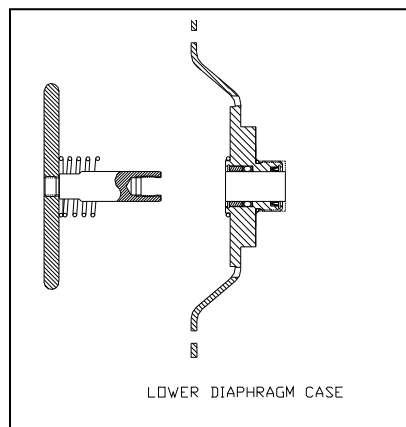

Figure 7
- 3.2.15 **Carefully** push the shaft through the lower half of the diaphragm case until the diaphragm plate (Part 2) clears the case. Then, pull out the plate and shaft (See Figure 7).